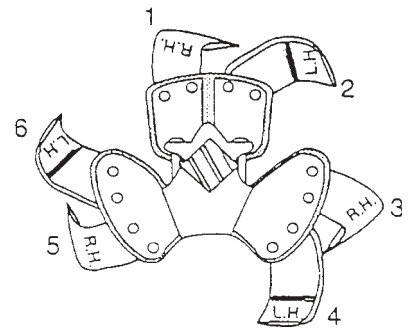

Figure 2
5. Blades may either be assembled in rotors in advance or after rotors are placed as above. Remember that blades are attached to ALL rotors in the same position and sequence except the last rotor installed or the L.H. end rotor, with hub of rotor facing you as in picture (See figure 2). Place a R.H. blade in position 1, a L.H. blade in position 2, a R.H. blade in position 3, etc. On the last rotor or the left end rotor, simply reverse this procedure. (Place a L.H. blade in position 1, a R.H. blade in position 2, a L.H. blade in position 3, etc.) This assembly should give a "spiral" as shown.
**Remember: ALL rotor blade assemblies should appear alike (as shown in figure 2) EXCEPT L.H. rotor.**